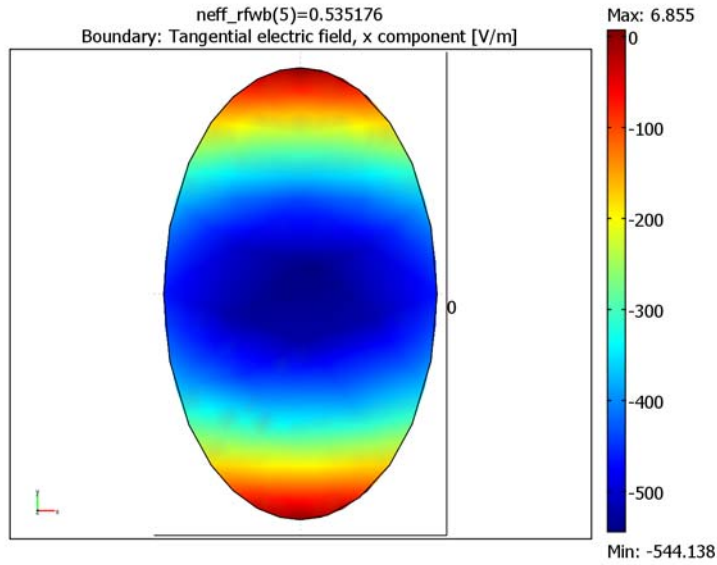

Figure 3-15: The x component of the electric field for the first eigenmode of the elliptical port.
Figure 3-15 displays the first eigenmode of the elliptical port. The effective mode index is $\beta/k_0 = 0.535$.
- 5 Click **OK** to plot the field and click the **Go to XY View** button to better see the field (see Figure 3-15 on page 118)